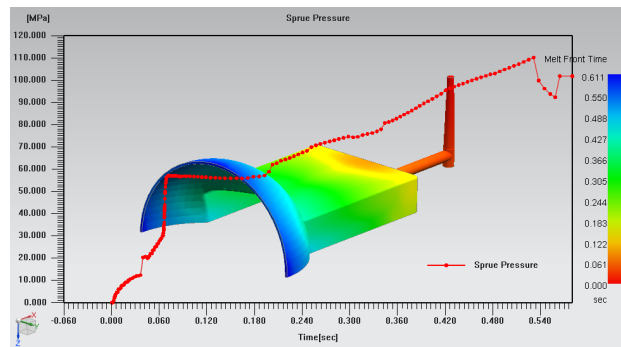
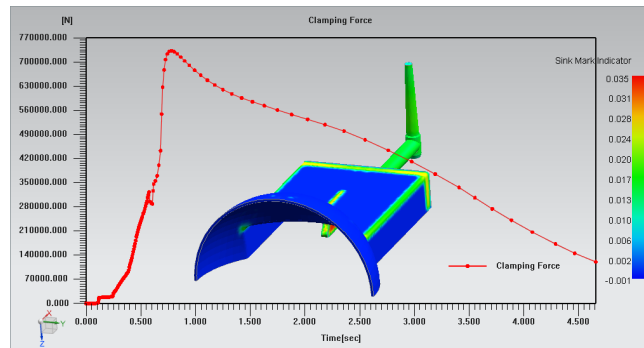

Figure 16-85 The Sprue Pressure vs Melt Front Time graph
Figure 16-90 The Clamping Force vs Sink Mark Indicator graph
- e. Start analysis and analyze the result, refer to Figures 16-85 to 16-90.
8. Select the **XY Plot** check box to activate the **XY Curve Type** drop-down list. Next, select the **Sprue Pressure** or **Clamping Force** option from this drop-down list; the resultant graphs are shown, refer to Figure 16-85 through Figure 16-90.